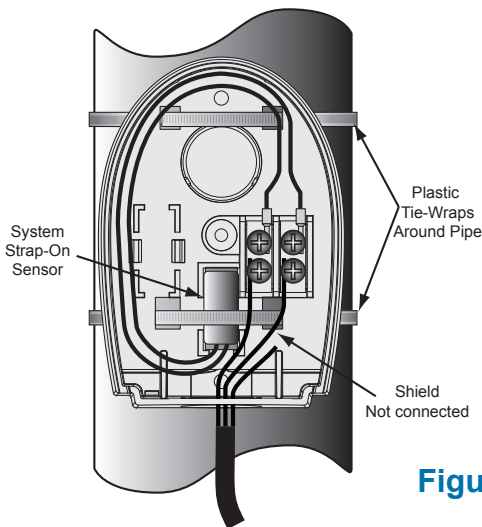

Figure 3
- Use the provided tie-wraps to hold the sensor and base in place while tying it to the pipe as shown in "Figure 3".
- Connect the sensor wires to the upper terminals as show in "Figure 3".